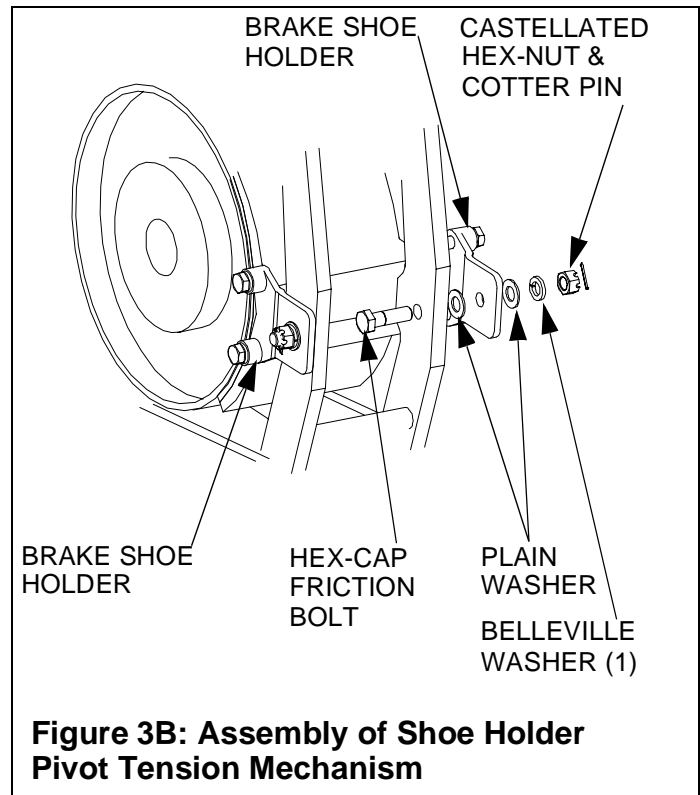

Figure 3B: Assembly of Shoe Holder Pivot Tension Mechanism
6.8.(d).(i): Install a belleville washer on the friction bolt hex cap screw, (inner rim against the head of the cap screw), followed by a plain washer. (See Fig. 3B).